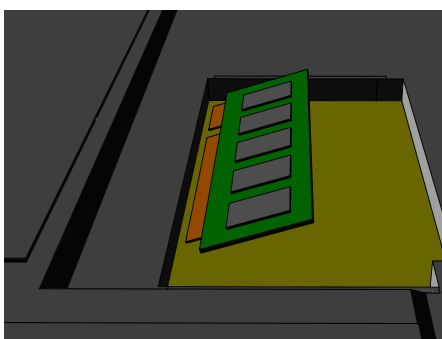

Fig.7
2. Insert the module into the socket at a slight angle. (See Fig.7)